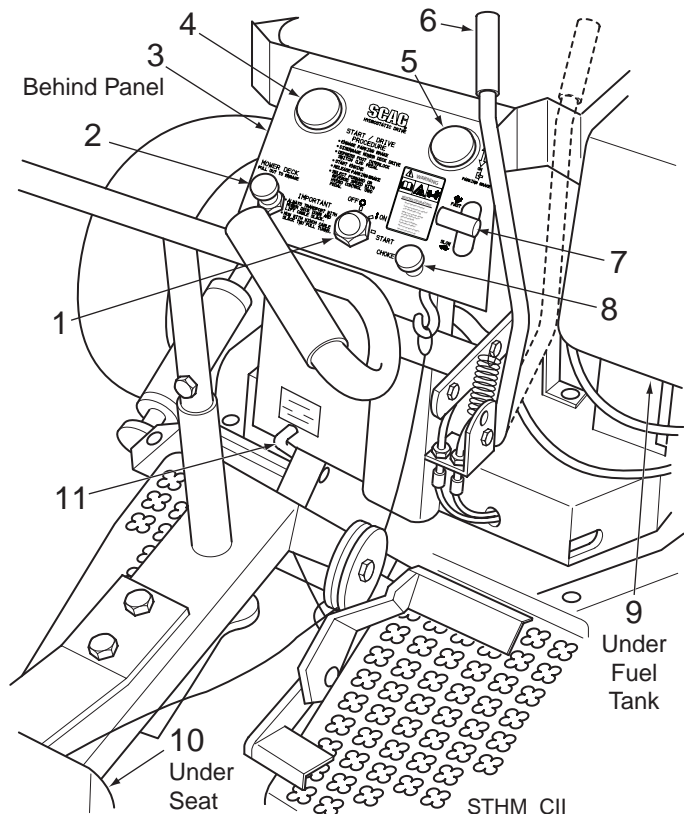

Figure 4-1. Control and Instrument Location
1. **Ignition Switch (Figure 4-1).** The ignition switch is used to start the engine and has three positions; OFF, ON, and START.
2. **Mower Deck Switch (Figure 4-1).** Used to engage and disengage the mower drive system. Pulling up on the switch will engage the deck drive. Pushing down on the switch will disengage the deck drive.
3. **Fuse Holders (Figure 4-1).** Two 20-amp fuses protect the mower's electrical system. To replace fuses, pull fuse out of the socket and install a new fuse.
4. **Hourmeter (Figure 4-1).** Indicates the number of hours the engine has been operated. It operates whenever the ignition key switch is in the ON position. Has preset maintenance reminders for engine and hydraulic system oil changes. Will start flashing scheduled maintenance 2 hours before preset time and continue flashing until 2 hours after. Automatically resets.
5. **Ammeter (Figure 4-1).** Indicates the current flow of the charging system.
6. **Parking Brake Control (Figure 4-1).** Used to engage and disengage the parking brakes. Pull the lever back to engage the parking brakes. Push the lever forward to disengage the parking brakes.
7. **Engine Throttle Control (Figure 4-1).** Used to control the engine speed. Pushing the lever forward increases engine speed. Pulling the lever back decreases engine speed. Full back position is the IDLE position. Full forward is the cutting position.
8. **Engine Choke Control (Figure 4-1).** Used to start a cold engine.
9. **Fuel Shutoff Valve (Figure 4-1).** Located on the bottom of the fuel tank. Used to shut off fuel supply to the engine. Rotate the valve clockwise to supply fuel from the tank.
10. **Lift Winch (Figure 4-1).** Used to raise and lower the cutter deck.
11. **Dump Valve Control Levers (Figure 4-1).** Located on the control panel pedestal, used to "free-wheel" the mower. Rotating the lever clockwise until it stops (closed) allows the unit to move under hydraulic power. The levers must be in this position and torqued to 10 lb-ft during operation of the mower. Rotating the lever counter-clockwise (open) allows the mower to be moved by hand (free-wheeling).